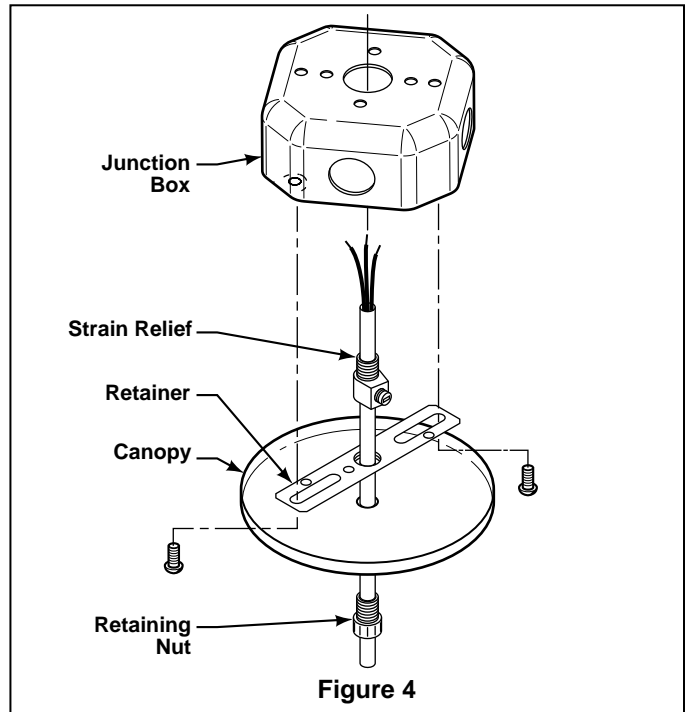

Figure 4
5. Mount retainer to junction box with screws (provided with your junction box). (Figure 4)